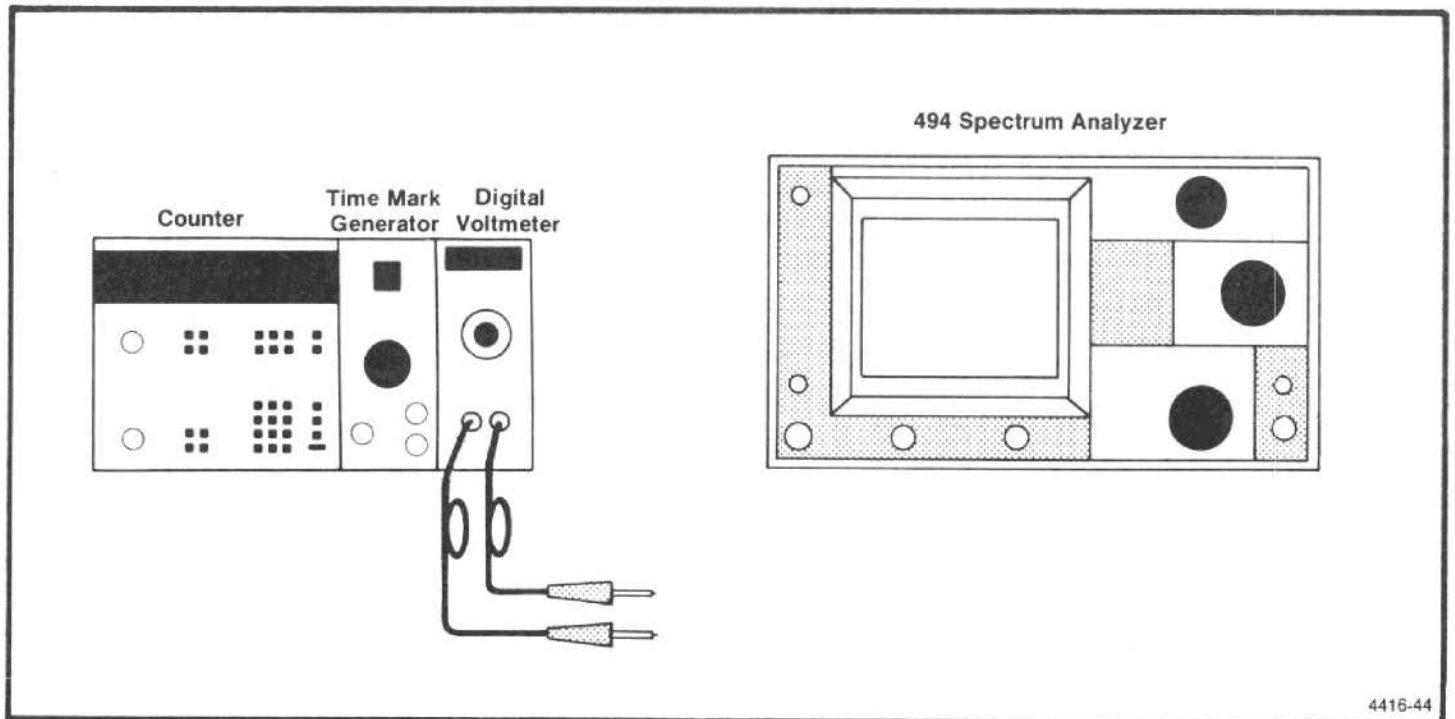

Figure 4-3. Test equipment setup for checking center frequency accuracy.
a. Test equipment setup is shown in Figure 4-3. Apply the CAL OUT signal through 1 dB and 10 dB step attenuators to the RF INPUT.
(1) Equipment setup is shown in Figure 4-3
(2) Apply the output of the comb generator to the RF INPUT. Set the FREQUENCY to 500 MHz and the FREQ SPAN/DIV to 210 kHz, via the Data Entry keyboard. Activate AUTO RESOLN, 10 dB/DIV, and set REF LEVEL to +20 dBm
(3) Press COUNT→CF and change the RESOLUTION BANDWIDTH to 10 kHz.
(4) Note that the signal is within $\pm[(20\% \text{ of Span/Div or Resoln Bandwidth}) + (\text{N} \times 15 \text{ kHz})]$ or $\pm 57 \text{ kHz}$ (± 1.35 minor div) of the dot marker.
(5) Set the FREQUENCY to 1.0 GHz and RESOLUTION BANDWIDTH to 1 MHz.
(6) Press COUNT→CF and change the RESOLUTION BANDWIDTH to 10 kHz.
(7) Check — that the signal is within 57 kHz of the dot marker.
(8) Repeat the procedure to check accuracy at a center frequency of 1.5 GHz (the upper end of band 1).
(9) Using the above procedure and Table 4-2, check center frequency accuracy to 21 GHz for those span/div settings in which the 1st LO is not phase locked.